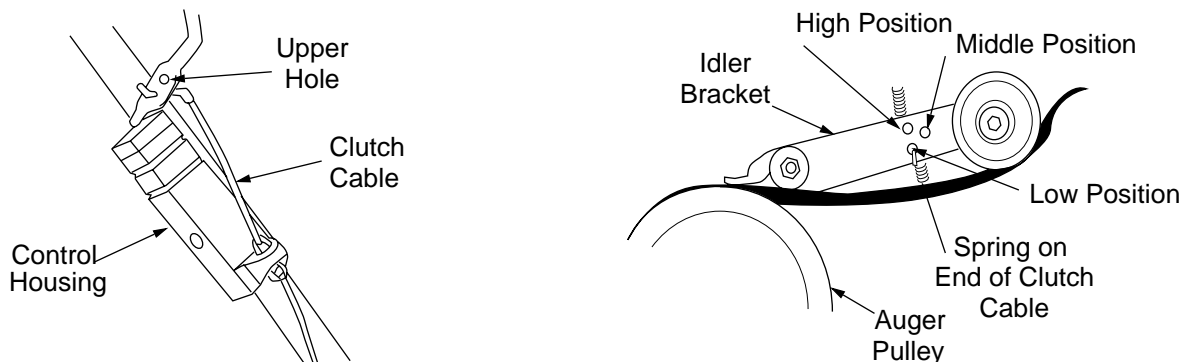
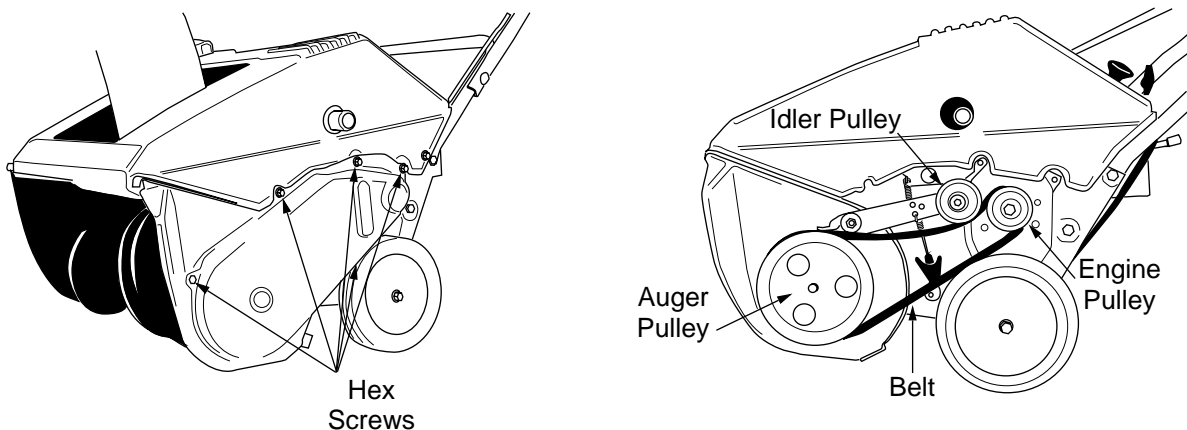

Figure 14
Figure 15
The upper hole in the control handle provides adjustment for belt tension. To adjust, disconnect the “Z” end of control cable from the bottom hole in the control handle. Refer to Figure 14. Hook the cable into the upper hole in control handle.
If additional adjustment is required, adjust the other end of the control cable at the Idler Bracket as follows: Remove the belt cover. See Figure 15. There are three adjustment holes provided in the Idler Bracket Assembly. See Figure 14. To adjust, move the extension spring on the end of the clutch cable to the next higher adjustment position on the Idler Bracket Assembly. Reassemble belt cover.
1. Remove the belt cover by removing five hex screws. See Figure 15.